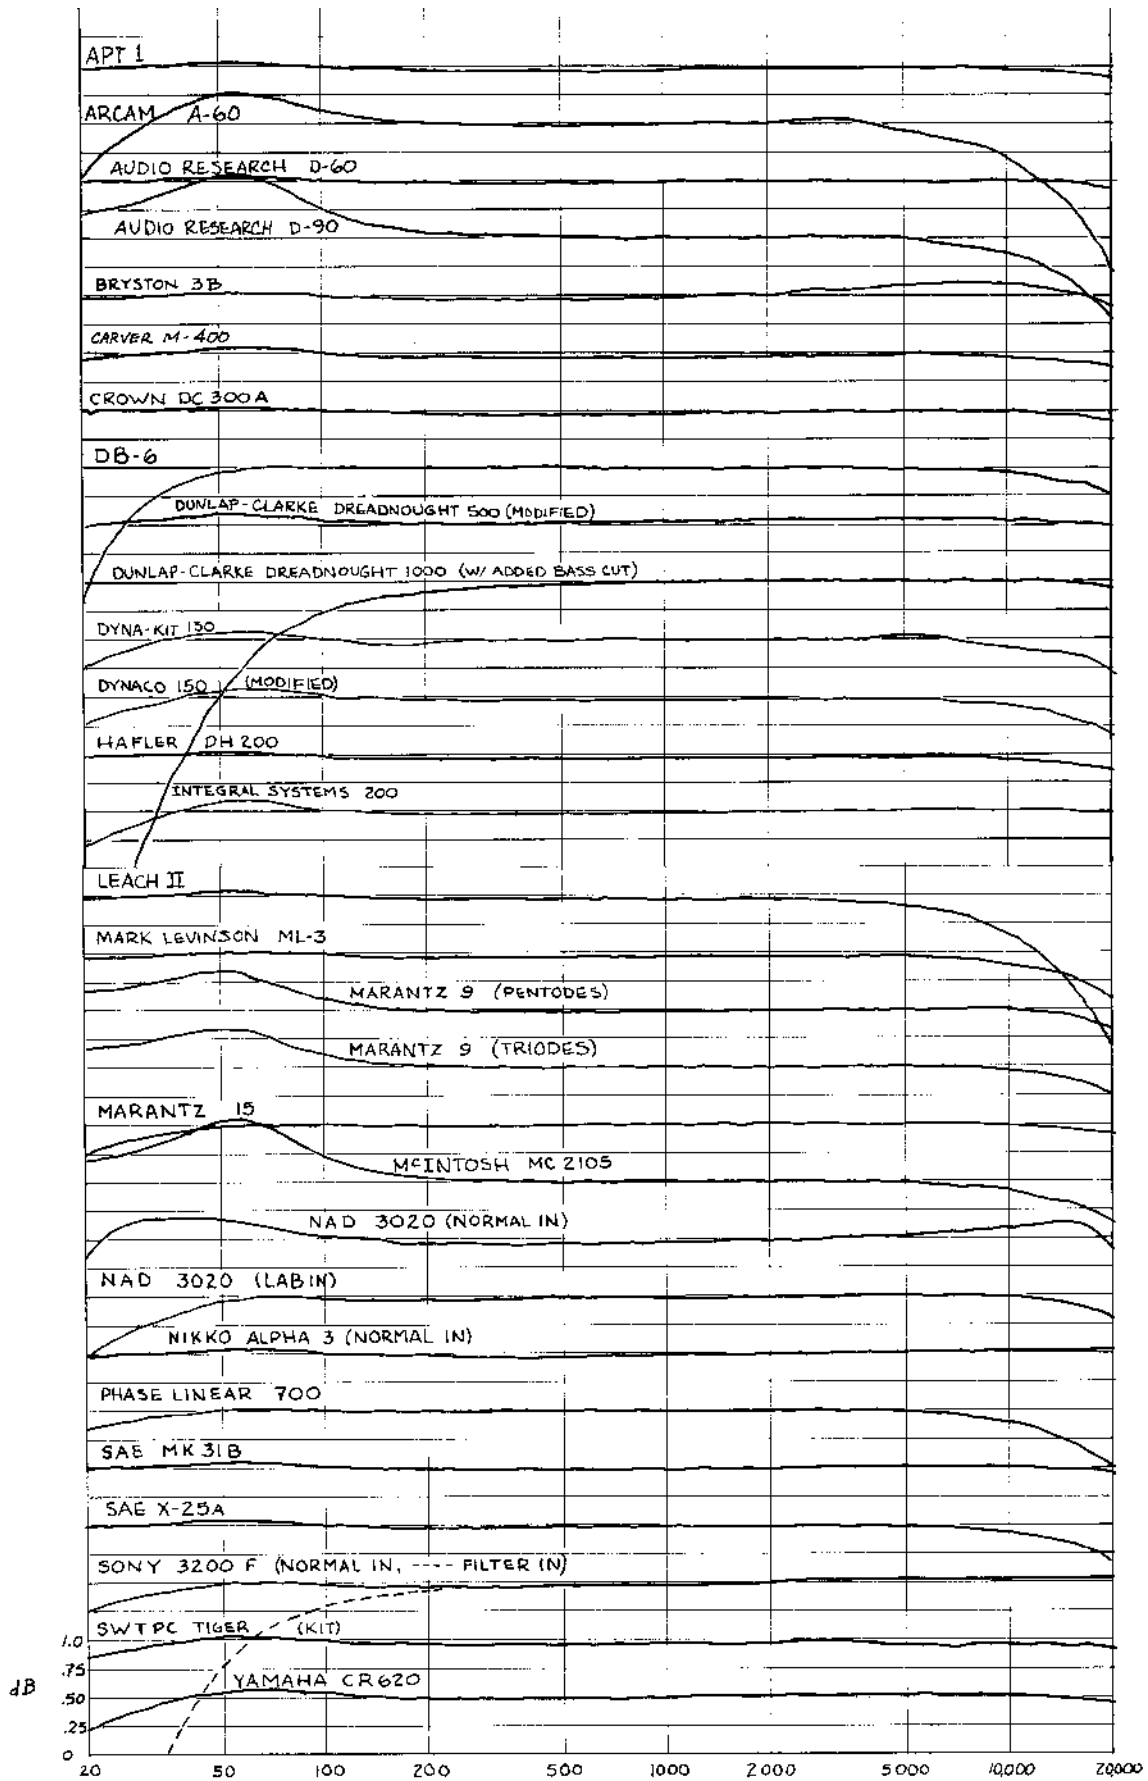

FIGURE 2. Amplifier Frequency Response into IHF Reactive Load.
The results are presented in Figure 2. We were frankly surprised at the large number of amplifiers showing significant frequency response deviations. Only about a third of our sample had perfect (± 0.1 dB) frequency response over the full 20 Hz to 20 kHz range. About a quarter showed errors greater than 0.1 dB but less than 0.25 dB. Another quarter fell in the 0.25 to 0.5 dB range, while 4 (13%) had errors of more than 0.5 dB. The errors were of three types: (1) low end rolloff, (2) a peak at the 60 Hz resonant frequency of the IHF load, and (3) high-end rolloff.